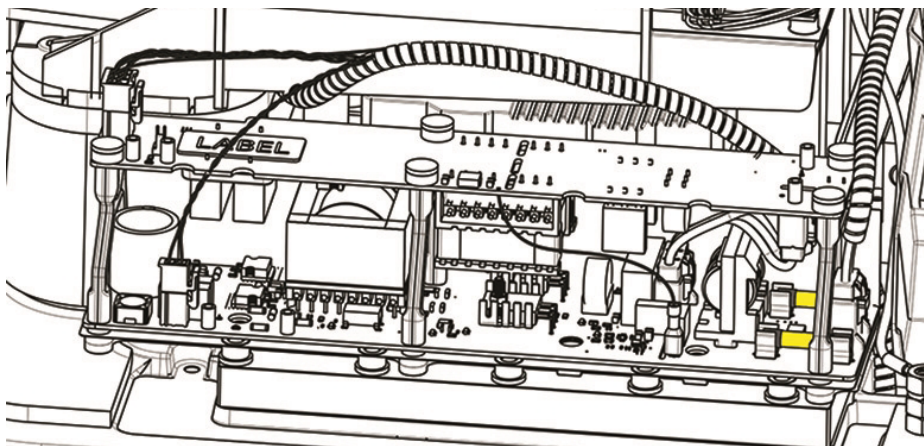

Figure 2 – DC-DC Fuse Location
3. Access is limited to the rear-most fuse. It is suggested to remove the DC-DC to gain access to the fuses. Refer to Figure 2 – DC-DC Fuse Location.